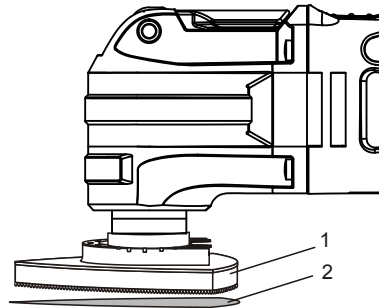

Fig. 4
1. Install the hook & loop sanding pad (1) onto the tool (Fig. 4).
2. Firmly press the sandpaper (2) onto the hook & loop pad.
2. Install the sandpaper on the sanding pad (Fig. 4 on Page 10).